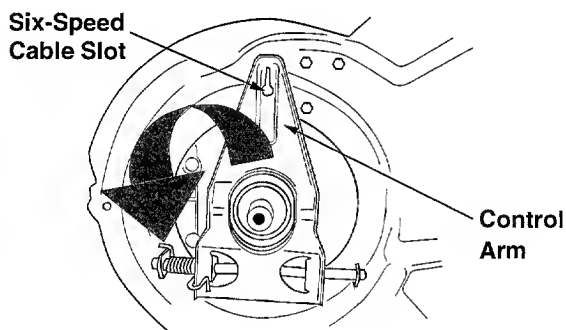

Figure 21
- Push control arm back and remove the six speed cable from the slot. Pivot the control arm down. See Figure 21.